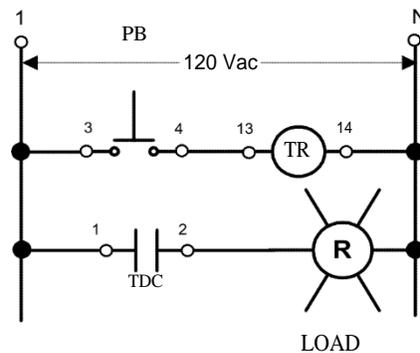

FIGURE 7.12
- Step 1: a) Set up the circuit shown in Figure 7.12. Note that the circuit input is connected to the fixed 120Vac output for the power supply, terminals 1 and N.